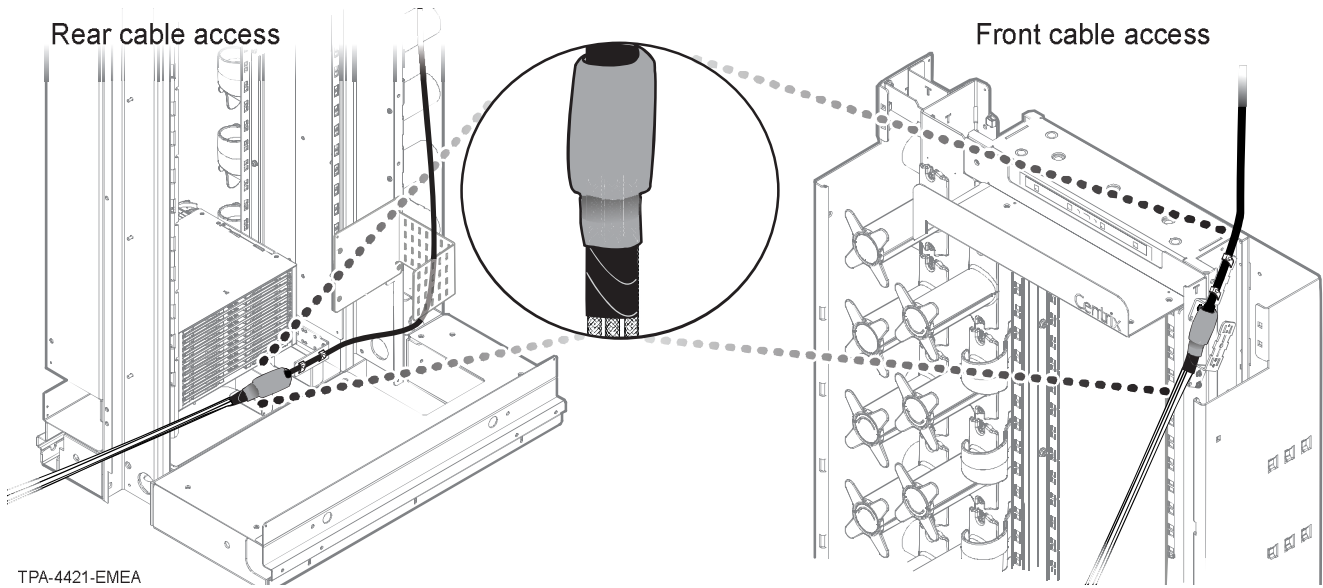

Figure 14
Step 3: Tape joint and cover with heat-shrink tubing (Figure 14).